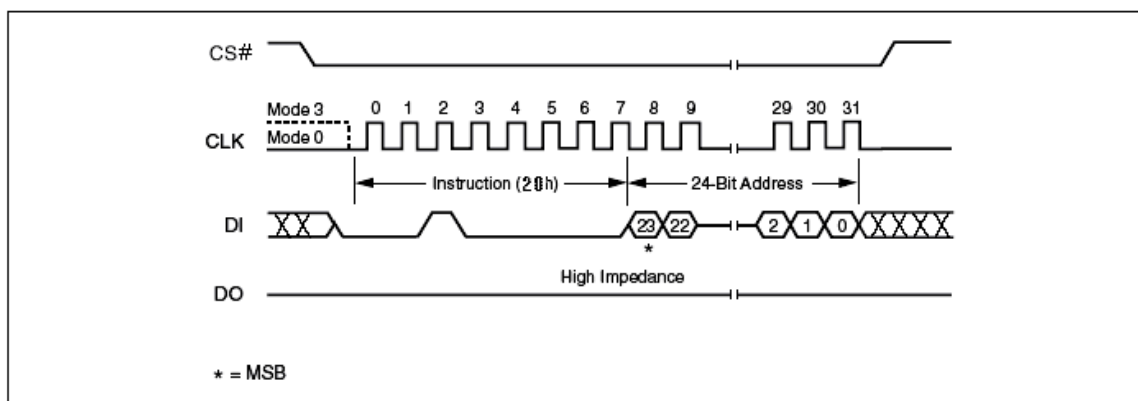

Figure 14. Sector Erase Instruction Sequence Diagram
The instruction sequence is shown in Figure 14. Chip Select (CS#) must be driven High after the eighth bit of the last address byte has been latched in, otherwise the Sector Erase (SE) instruction is not executed. As soon as Chip Select (CS#) is driven High, the self-timed Sector Erase cycle (whose duration is t_{SE}) is initiated. While the Sector Erase cycle is in progress, the Status Register may be read to check the value of the Write In Progress (WIP) bit. The Write In Progress (WIP) bit is 1 during the self-timed Sector Erase cycle, and is 0 when it is completed. At some unspecified time before the cycle is completed, the Write Enable Latch (WEL) bit is reset.